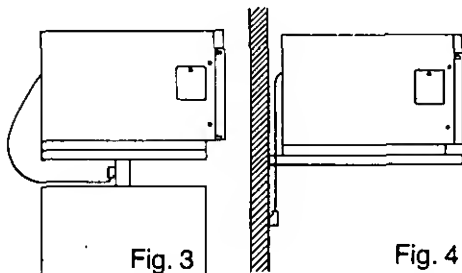

Fig. 3
- a) The entire oven's bottom skirt is supported by the shelf (oven may hang over an open shelf or front shelf). (Fig. 3 & 4)